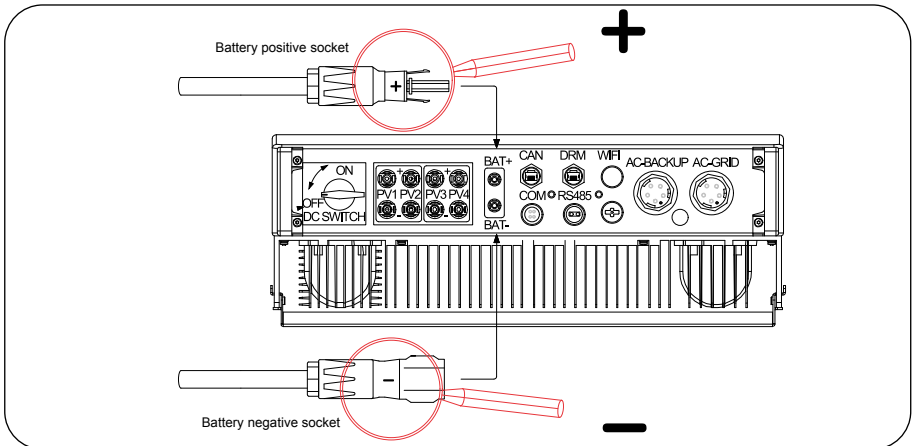

Figura 17
5. Fit the connectors to the battery ports at the bottom of the inverter with correct polarity: a "click" sound. (Figura 17).